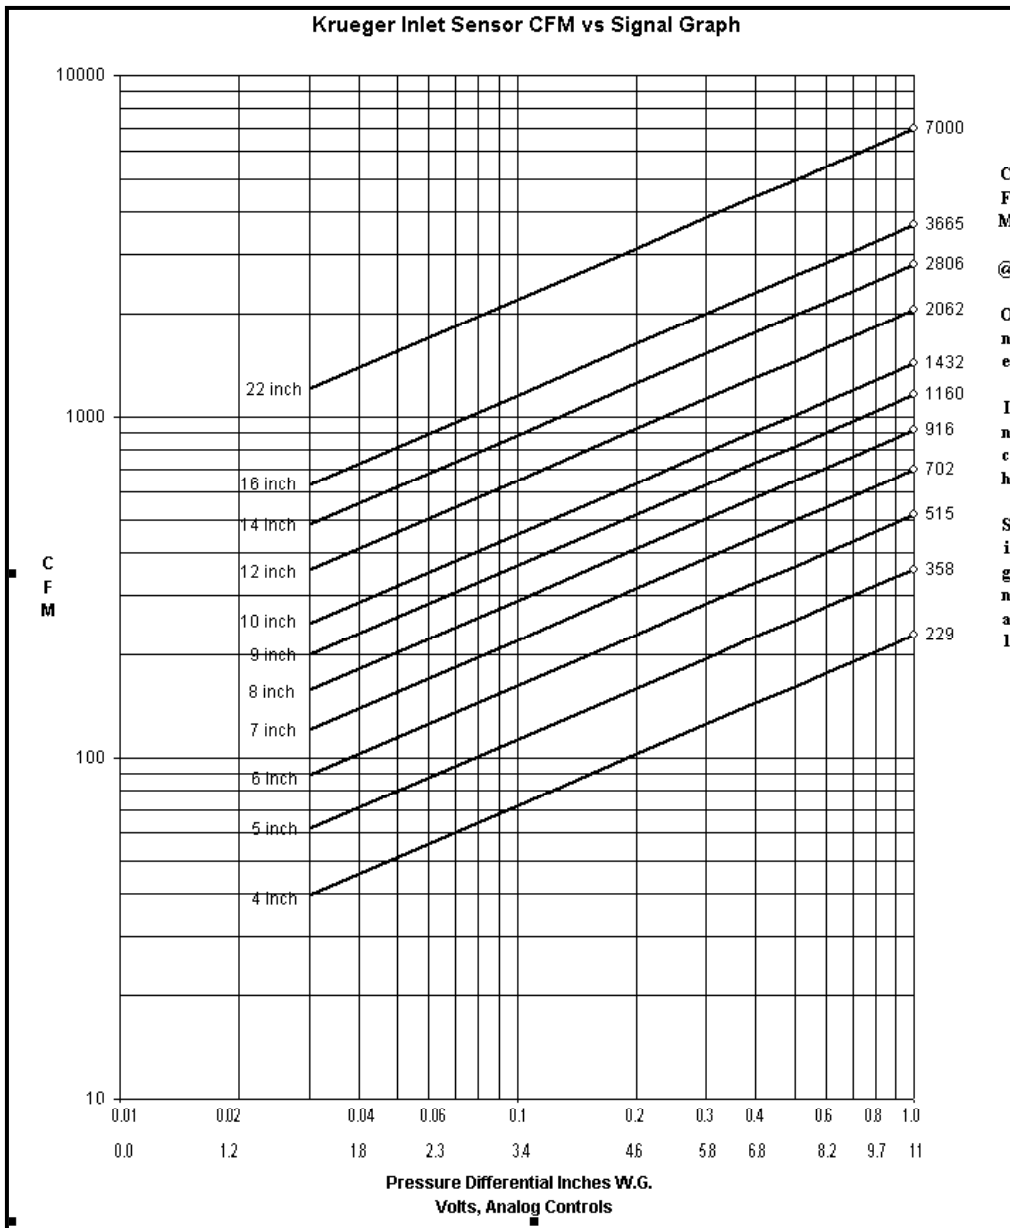
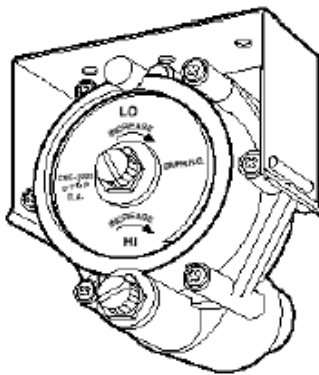

Figure 6 – Inlet Sensor Pressure Chart
FIGURE 7 – Pneumatic Volume Controller (Normally Open) for Pneumatic Control Unit (Beige Color)
NOTE: Refer to wiring diagram attached to each unit for specific information on that particular unit. Units with 480-3-60 electric heater **REQUIRE** 4-wire, wye connected power. Units with 208/230 v, 3-phase heater can be connected with 3-wire power. Unit airflow should not be set outside of the range noted in Figure 6, Figure 7 and the performance data section of this document. The minimum recommended airflow for units with electric heat must be at least 75 cfm per kW and not drop below the minimum values listed in the performance data table. The maximum unit discharge temperature should not exceed 120 F. Prevent air stratification by setting the discharge temperature no more than 15 degrees above the room temperature. Example: 90 F discharge in a 75 F room.
Each unit is equipped with an amplifying flow probe that measures a differential pressure proportional to the airflow. The relationship between flow probe pressures and cfm is shown in the Flow Probe Graphs (Fig.6). This chart is attached to each unit. There are several conventions (and no universally accepted method) in use for representing this flow factor:
Volume controllers for LMHS units are shown in Fig. 7, 8 and 9. Identification for each controller is shown in Table 5.
7. Read the differential pressure and enter the Linear Aver-aging Probe Chart to determine the airflow in the terminal unit. This chart is shown in Fig. 6 and is also attached to the side of each unit. For example, a differential pressure of 0.10 in. wg for a size 8 unit yields an airflow of 275 cfm.
- b. Adjust the minimum volume control knob (marked “LO” and located in the center of the controller) to achieve the required minimum flow. To determine the required pressure differential, refer to Tables 2 and 5 and the Probe Chart provided on the side of the VAV unit and in Fig. 6.
- c. Adjust the maximum volume control knob (marked “HI” and located at the side of the controller) until the desired pressure differential is registered on the manometer. To determine the required pressure differential, refer to Table 5 and the Probe Chart provided on the side of the VAV unit and in Fig. 6.
- c. To achieve the required minimum flow. To determine the required pressure differential, refer to Tables 2 and 5 and the Probe Chart provided on the side of the VAV unit and in Fig. 6.
- d. until the desired pressure differential is registered on the manometer. To determine the required pressure differential, refer to Table 5 and the Probe Chart provided on the side of the VAV unit and in Fig. 6.
- For DA Cooling or RA Heating (see Fig. 6): Adjust HI STAT ΔP to the desired maximum airflow with 20 psig (or a pressure greater than the reset stop point) at port “T”. The HI STAT ΔP must be set last. The HI STAT ΔP setting will be affected by the LO STAT ΔP setting.
- For RA Cooling or DA Heating (see Fig. 6): Adjust HI STAT ΔP to the desired minimum airflow with 20 psig (or a pressure greater than the reset stop point) at port “T”. The HI STAT ΔP must be set last. The HI STAT ΔP setting will be affected by the LO STAT ΔP setting.